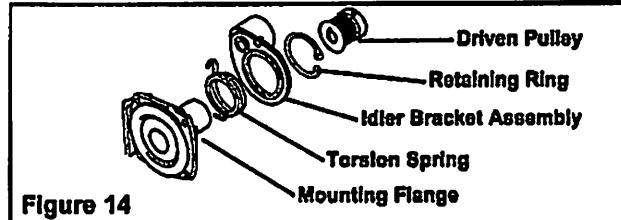

Figure 14
1. Remove the set screw securing the driven pulley to the pump shaft; then slide the driven pulley and key off the pump shaft (See Figure 14).
2. Remove the retaining ring securing the idler bracket assembly to the mounting flange (See Figure 14).
3. Slide the idler bracket assembly and torsion spring off the mounting flange (See Figure 14).